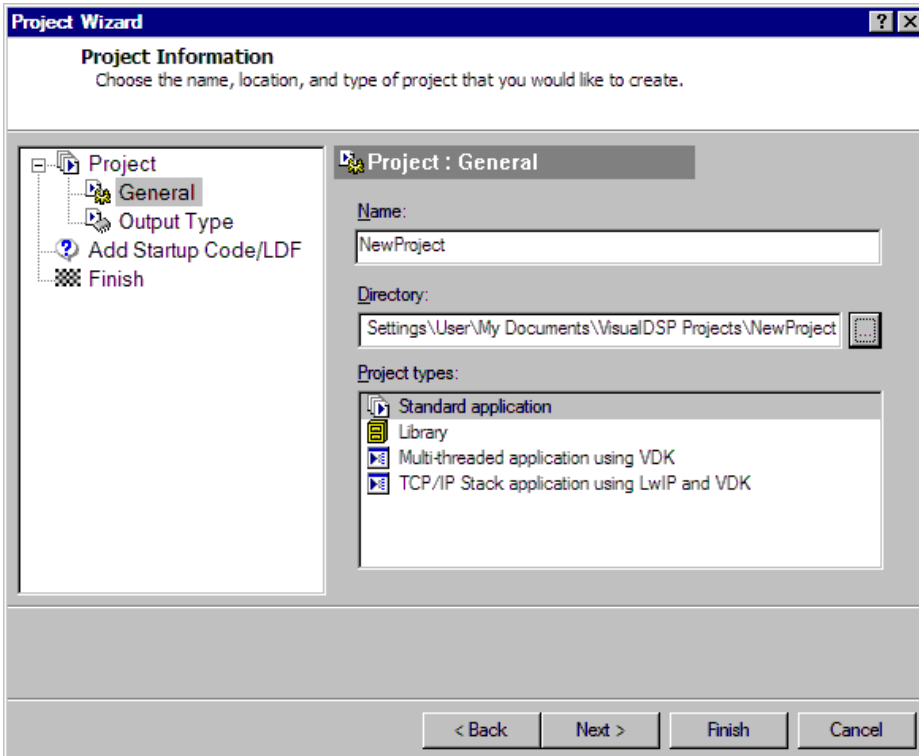

Figure 2-11. Project Wizard – General Page
2. From the **File** menu, choose **New** and then **Project** to open the **Project Wizard**, shown in Figure 2-11.